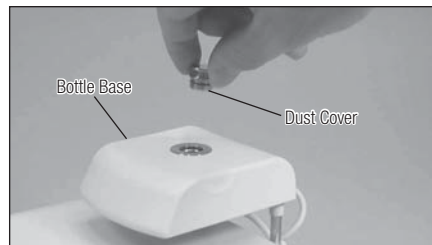

Fig. 5
- 1) Remove the Dust Cover from the Bottle Base. (Fig. 5)